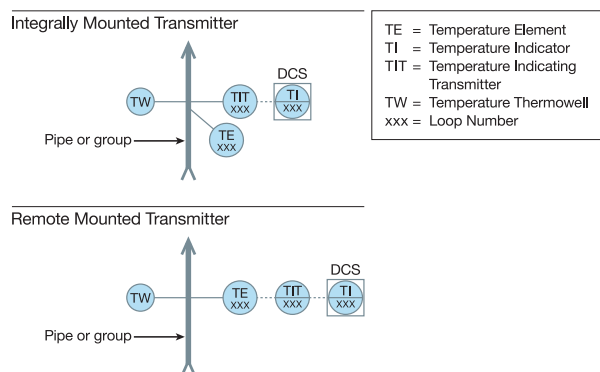

Figure 4-41: Typical ISA Symbols for a Temperature Loop
The P&ID does not indicate precisely where to install the sensors and transmitters, leaving a great deal of latitude in the selection and placement of the specific components by the engineering staff and piping designer. The P&IDs are to be used to describe the relationships between equipment and instrumentation as well as other relevant information that will enhance clarity. Computer software programs that do P&IDs or other diagrams useful to the information package may be used to help meet this requirement. Decisions regarding the use of specific components are often influenced by corporate standards, local preferences, and the existing infrastructure. For temperature loops, P&IDs will show such things as temperature sensing elements (TE), thermowells (TW), temperature indicating transmitters (TIT), temperature indicators (TI), and temperature indicating controllers (TIC). Figure 4-41 shows typical loop sheet ISA symbols for both an integrally mounted transmitter and a remote mounted transmitter.